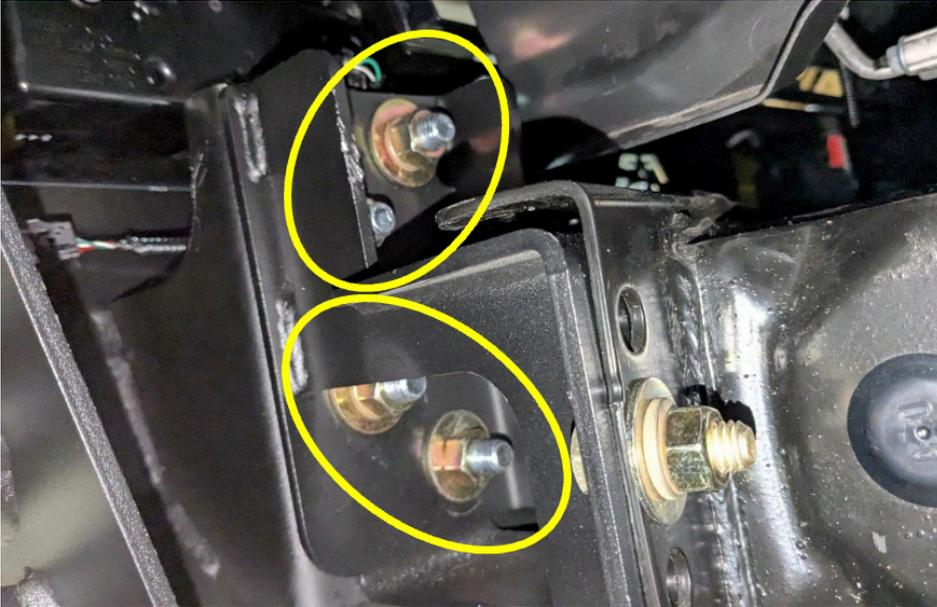

Figure 55
41. Install the eight (8) provided 1/2" flat washers, lock washers, and nuts onto the bolt strips. Align the bumper with the vehicle, then use a 3/4" socket wrench to tighten this hardware. (Figure 55)